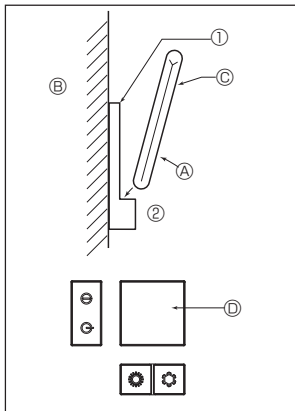
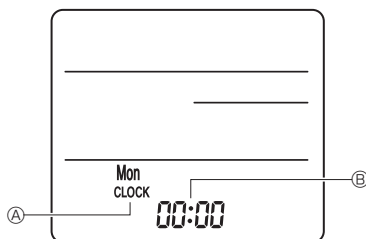

Fig. 7-7
Fig. 7-8
2) Installation method (Fig. 7-7)
- ① Attach the remote controller holder to the desired location using 2 tapping screws.
- ② Place the lower end of the controller into the holder.
3) Setting (Clock setting) (Fig. 7-8)
- ① Insert batteries or press the ● CLOCK button with something sharp. [CLOCK] Ⓐ and [.] Ⓑ blinks.
- ② Press the RESET ● button with something sharp.
- ③ Press the ⬆ button to set the time.